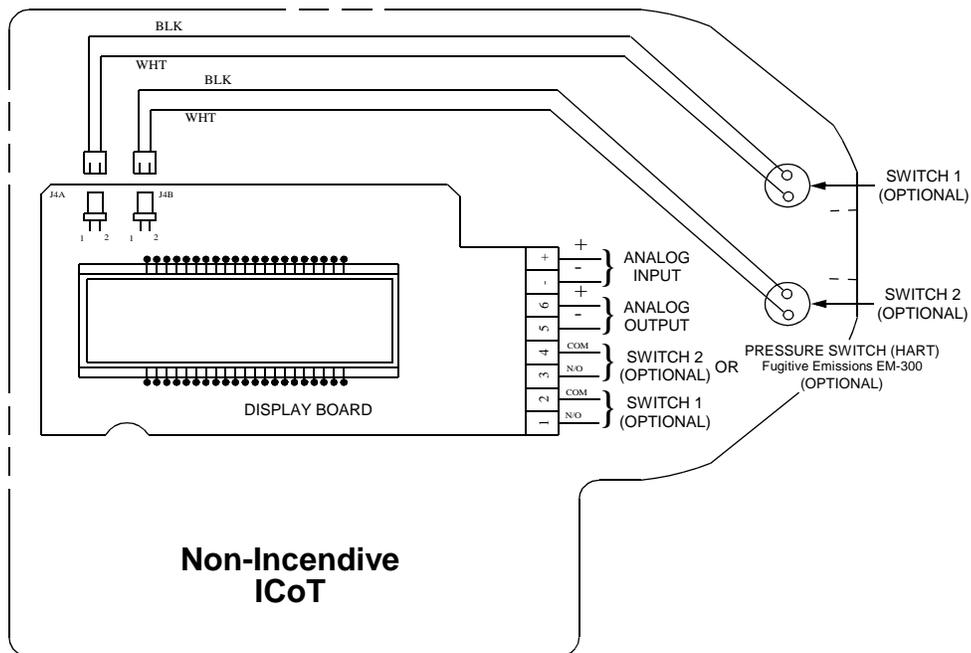

Figure 3-10
3. Connect the 4 to 20 mA loop signal to terminal points marked (+) and (-). See figure 3-10 for a wiring schematic.
5. If the positioner was ordered with switches, connect to the switches at terminal points 1 thru 4, as shown in Figure 3-10.